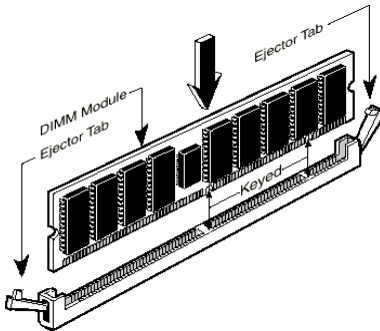

Figure 2-4. Memory module installation
- Step 5.** Insert the DIMM module into the expansion socket as shown in the illustration. Note how the module is keyed to the socket. You can refer to figure 2-4 for the details. ***This insures the DIMM module will be plugged into the socket in one way only.*** Firmly press the DIMM module into the DIMM socket, making certain the module is completely seated in the DIMM socket.